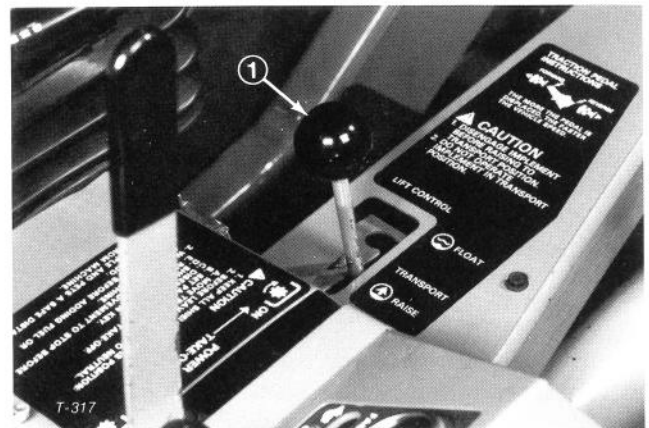
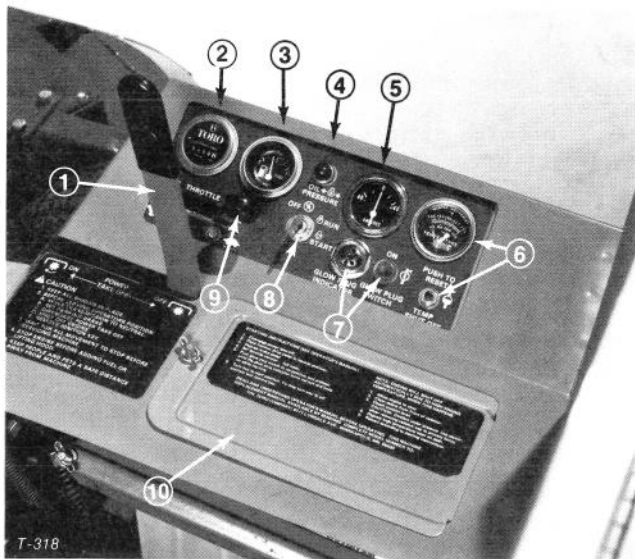

Figure 22
Figure 23
Lift Lever (Fig. 22) — The hydraulic lift lever has three positions: FLOAT, TRANSPORT and RAISE. To lower implement to the ground, move lift lever forward into notch, which is the FLOAT position. The FLOAT position is used for operation and also when machine is not in operation. To raise implement, pull lift lever backward to the RAISE position. After implement is raised, allow lift lever to move to the TRANSPORT position. Normally, implement should be raised when driving from one work area to another, except when descending steep slopes.
PTO Lever (Fig. 23) — The PTO lever has two positions: ON, engage and OFF, disengage. Slowly push PTO lever fully forward to ON position to start the implement or cutting unit blades. Slowly, pull lever backward to OFF position to stop implement operation. The only time PTO lever should be in the ON position is when implement or cutting unit is down in operating position.
Hour Meter (Fig. 23) — The hour meter registers accumulated hours of engine operation. Use the hour meter to determine intervals for service maintenance and lubrication.
Fuel Gauge (Fig. 23) — Indicates quantity of fuel remaining in fuel tank.
Oil Pressure Warning Light (Fig. 23) — The oil pressure warning light will glow and a buzzer will sound when oil pressure in engine drops below a safe level. If low oil pressure ever occurs, stop engine and determine the cause. Repair the damage before starting the engine again.
Ammeter (Fig. 23) — Ammeter shows charge rate of the battery by the alternator. When engine is running, there usually is a slight charge, unless engine is idling slowly. Needle will point to 0 when battery is fully charged. By contrast, alternator is not charging the battery when needle points to (-) negative side of ammeter, and if this happens, repair the charging system to prevent discharge of the battery.
Temperature Switch/Gauge and Reset Button (Fig. 23) — The temperature switch/gauge registers the temperature of the coolant in the cooling system. If temperature of coolant gets too high the engine will shut off automatically. When this happens, rotate ignition key to OFF. Automatic shut-off of the engine usually results from debris on front of screen or radiator, which reduces air flow. After cleaning outside of screen and radiator or repairing some other damage, press the reset button and start the engine.
Glow Plug Switch and Indicator (Fig. 23) — Use to preheat engine cylinders before and during starting procedures. Push switch lever upward and hold while watching indicator. Indicator will glow red when sufficiently heated. Length of time necessary to preheat cylinders should be determined by atmospheric temperature; refer to Starting/Stopping Engine, page 20.
Key Switch (Fig. 23) — The key switch, which is used to start and stop the engine, has three positions: OFF, RUN and START. Rotate key clockwise to the START position to engage starter motor. When engine starts, release key and it will move automatically to the ON position. To shut engine off, rotate key counterclockwise to the OFF position.
Throttle Control (Fig. 23) — Throttle is used to operate engine at various speeds. Moving throttle forward increases engine speed — FAST; backward decreases engine speed — SLOW. The throttle regulates the speed of the cutter blades or other implement components and, in conjunction with traction pedal, controls ground speed of the traction unit.
A 40 amp circuit breaker is also incorporated to protect the entire wiring circuit. A reset button is located on the lower side of the panel, which can be reached after removal of the battery cover (Fig. 23, 25). The button should be depressed if a total loss of all electrical functions should occur. However, the electrical system should first be checked to ascertain the reason for the malfunction.
1. Ensure parking brake is set, PTO lever is in OFF position (Fig. 23) and lift lever is in TRANSPORT or FLOAT position (Fig. 22). Remove foot from traction pedal and insure it is in neutral.
2. Move throttle control (Fig. 23) to full FAST position.
4. Turn key in key switch to START position (Fig. 23). Release key immediately when engine starts and allow it to return to RUN position. Move throttle control to SLOW position.